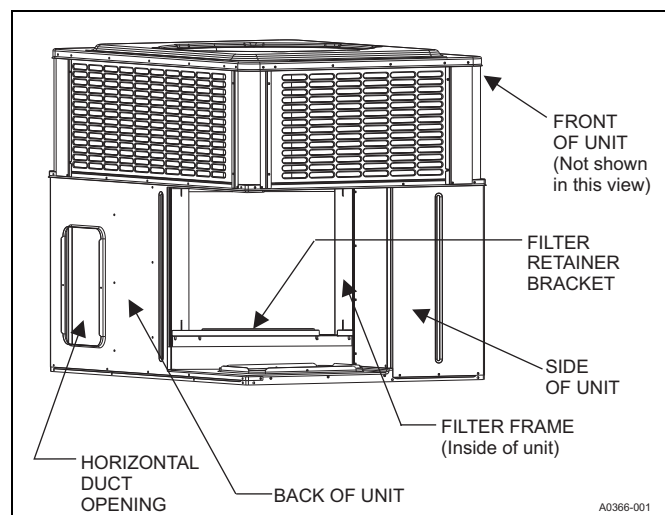

FIGURE 9: Filter Assembly Inside of Unit
8. Install the horizontal duct cover on the back of the unit. See Figure 9. The horizontal duct cover access is now the filter access opening on any unit that has a downflow economizer.